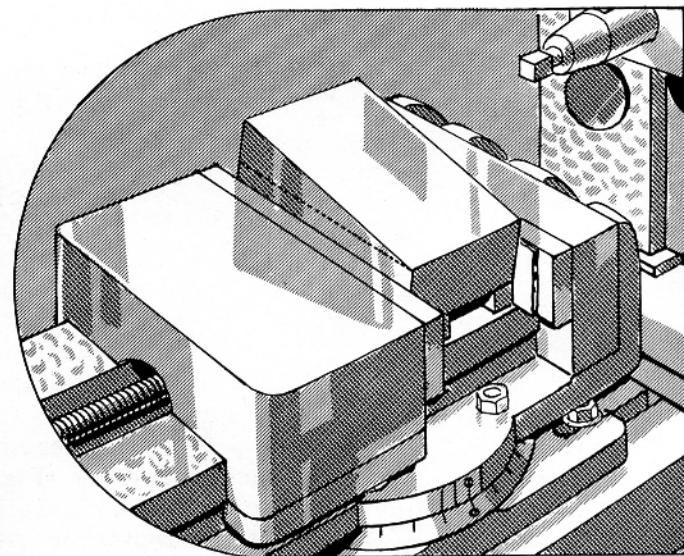

FIG. 361
2. Set the vise at 90° to the direction of the stroke. The zero mark on the vise will coincide with the 0° graduation on the base (Fig. 361).
5. Place pieces of paper or strips of cardboard (Fig. 361) between the vise jaws and the sides of the work if the work surfaces are rough to prevent damage to the jaws. The vise jaws should be checked constantly and kept in good condition.
6. Place the work in the vise and hold it with one hand so that the scribed guide line lies approximately parallel with the top of the vise (Fig. 361).